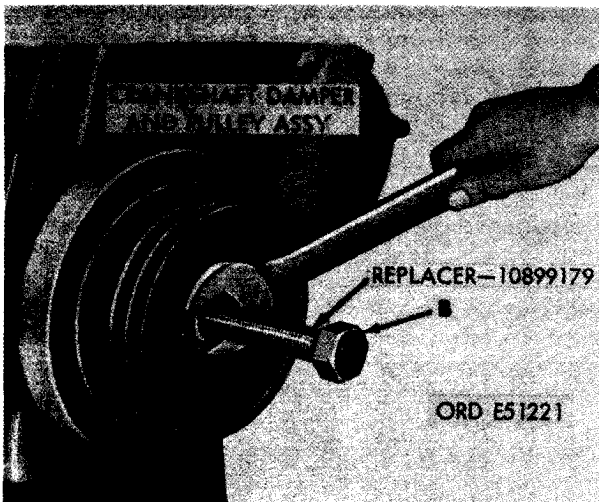

FIGURE 479. INSTALLING CRANKSHAFT DAMPER AND PULLEY ASSEMBLY USING REPLACER - 10899179.
d. Install Crankshaft Damper and Pulley Assembly. Figure 479.(A) Start crankshaft damper and pulley assembly on front end of crankshaft assembly with keyway in damper hub aligned with key in crankshaft. (B) Push crankshaft damper and pulley assembly on end of crankshaft using replacer- 10899179 as shown.